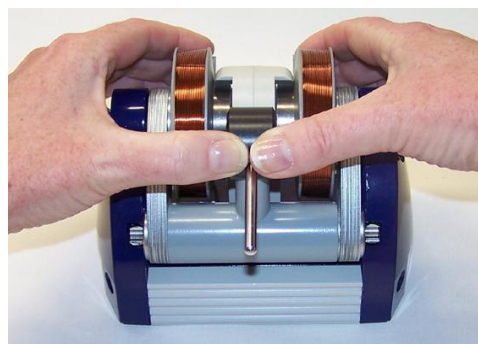

Fig. 7 Removing the magnet unit from the basic unit
- Hold the yoke in place with your thumbs and use your fingers to pull the magnet unit towards the front till the yoke is between the two magnets. Then take the entire unit out of the basic unit (see Fig. 7).